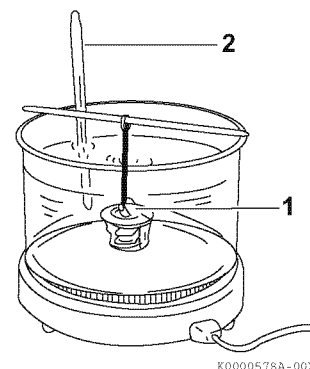

Figure 8-7
1. Check for proper operation of the thermostat. Place the thermostat (**Figure 8-7, (1)**) and an accurate thermometer (**Figure 8-7, (2)**) in warm water.